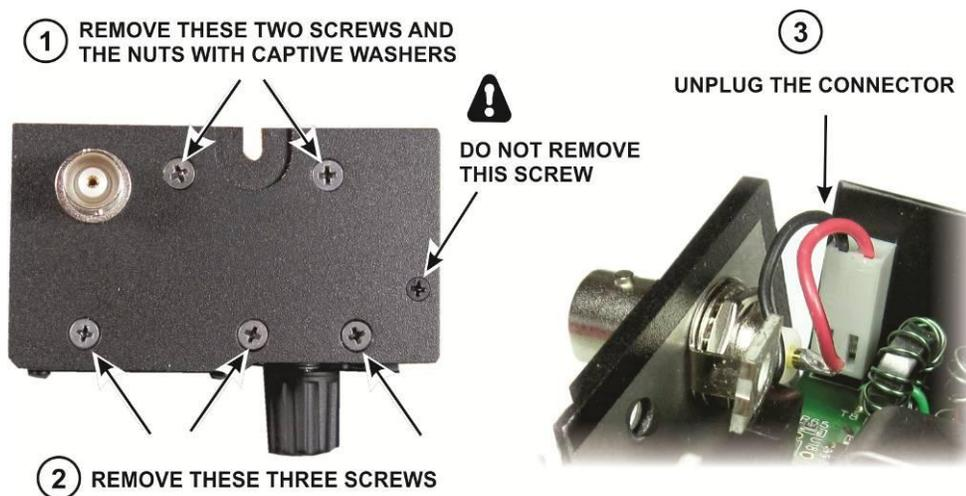
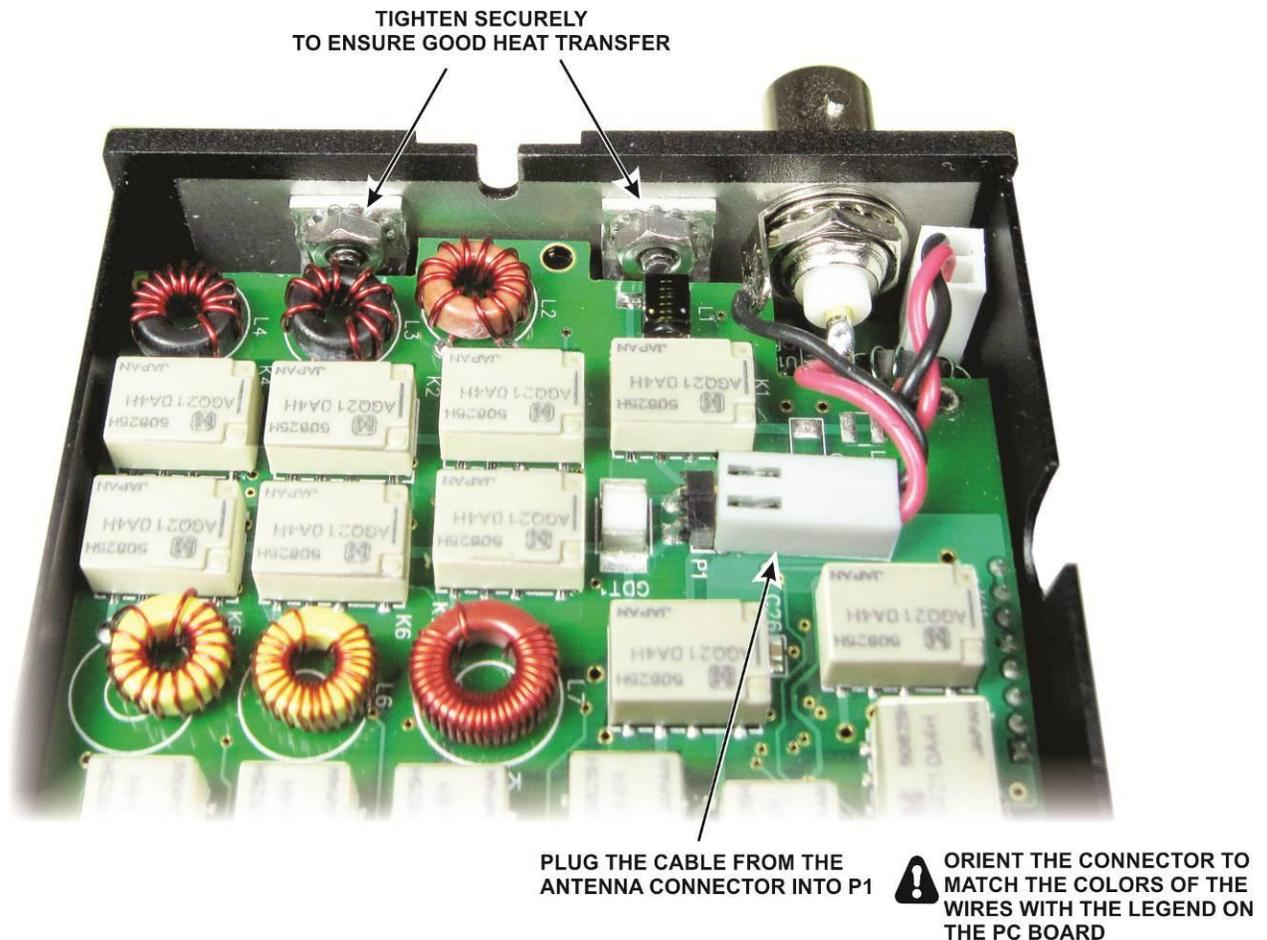

Figure 2. Removing the KX2 End Plate.
Figure 5. Finishing KXAT2 Installation
2. Thin nose (1/8” or 3 mm) pliers to hold nuts with limited clearance space (see Figure 5 on page 4).
- Remove the end plate with the antenna connector as shown in Figure 2. The screw marked “Do Not Remove” connects to nothing inside the KX2. It ensures proper spacing between two circuit boards.
Replace the end plate starting with the three short screws near the front panel (see Figure 2 on page 2), and then replace the longer screws and nuts with the captive washers (see Figure 5). Be sure the screws with the nuts are secure to ensure good heat transfer from the transistor tabs to the end plate.
- Plug the cable from the antenna connector P1 on the KXAT2 board as shown in Figure 5.